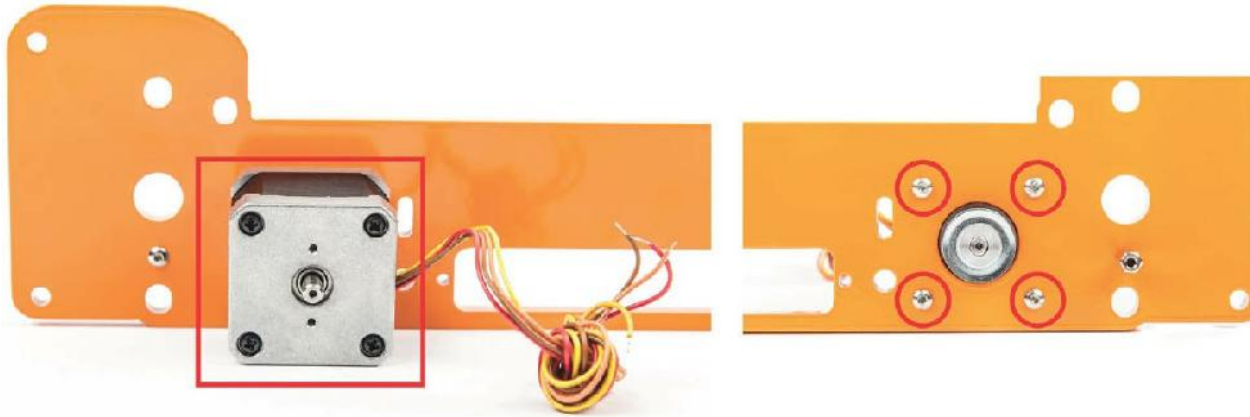

Fig. 2.62 The mounted Y motor
5. Fasten the Y motor to the rear panel using four 12 mm M3 bolts (see figure 2.62). Make sure the motor cables face toward the center of the panel.